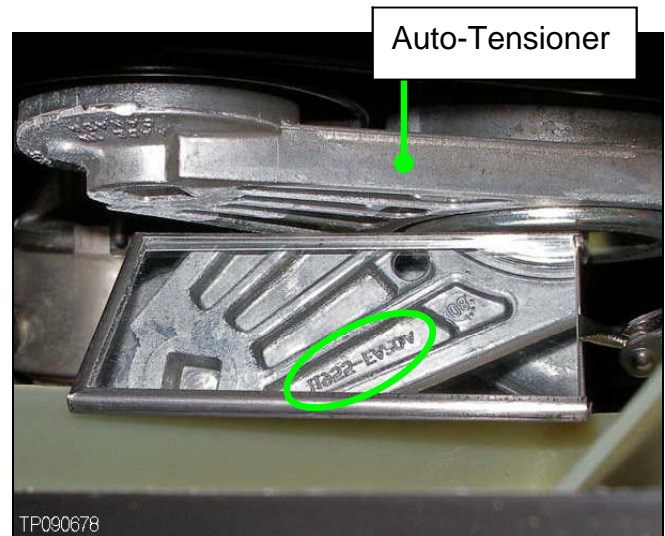

Figure 4
12. Check the part number on the front of the tensioner arm using a mirror (see Figure 4).